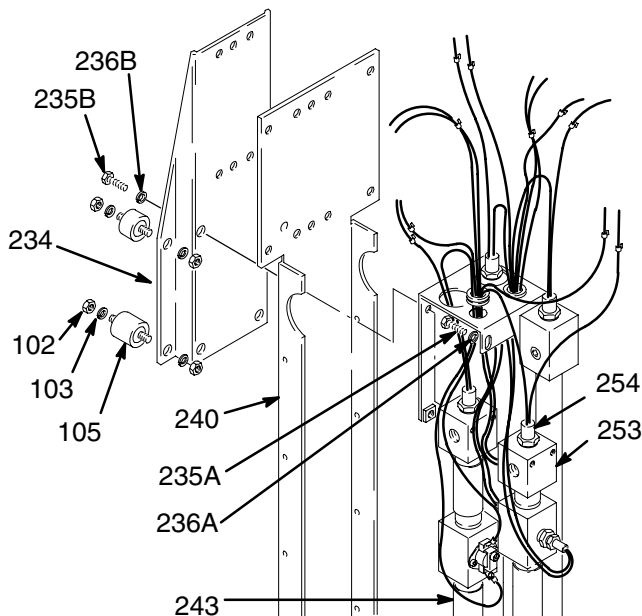
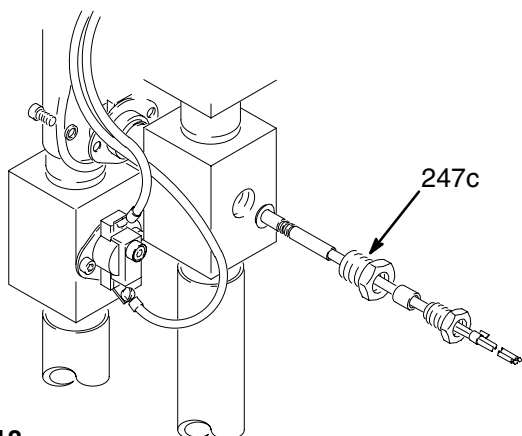
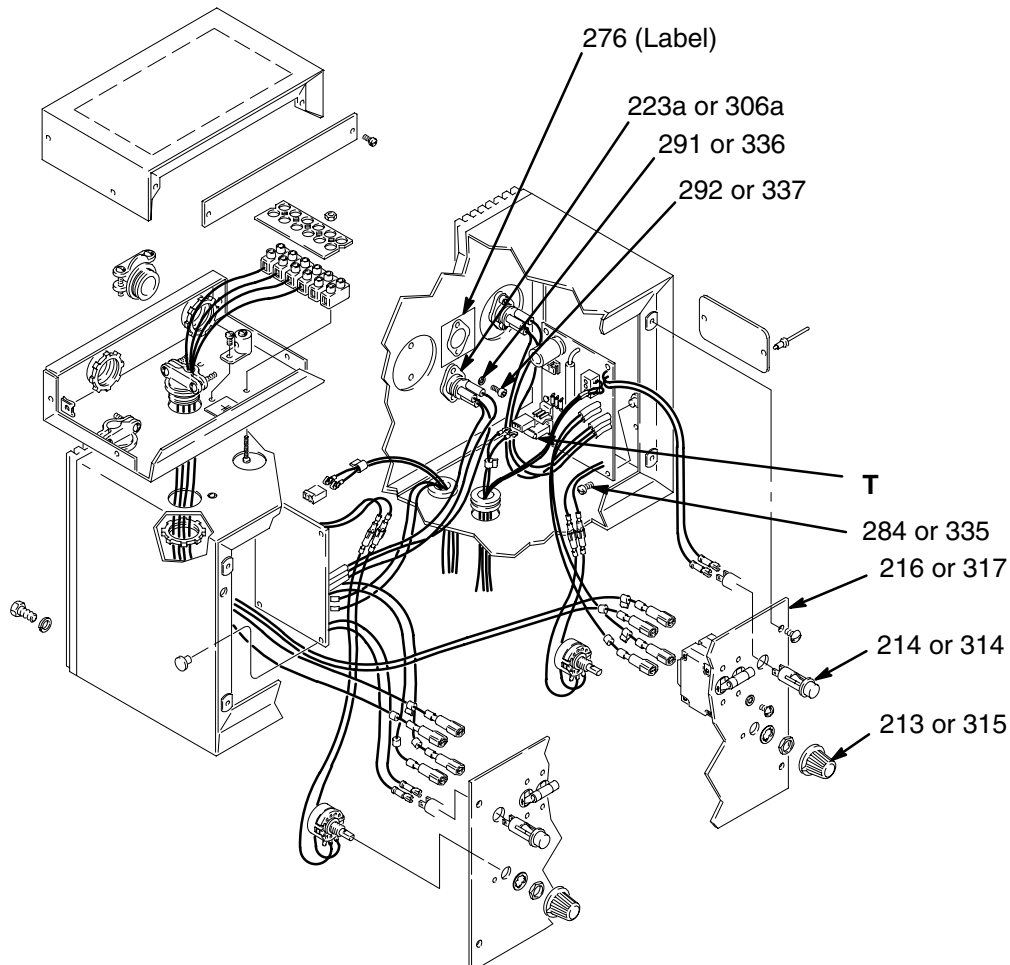

Fig. 17
Fig. 18
Fig. 20
1. Cool the fluid in the heater by pumping unheated fluid through it for two minutes before removing the front heater panel (238).
**NOTE:** Refer to Fig. 17 except where noted.
3. Connect the control panel cover (216) to the control box with one screw to keep it out of the way. See Fig. 20, page 30.
4. Remove the front heater cover (238). See page 39. Disconnect the heating element wire from the thermostats.
6. Remove all four nuts (102) and lockwashers (103) from the side flanges of the heater mounting bracket (234). See Fig. 17.
9. From the back of the heater mounting bracket (234) remove the top screws (235B) and lockwasher (236B) only from the side of the heater you are working on.
10. Push the heater element tube (243) up slightly, tip the bottom of the tube out and away from the rear panel, and then pull it away from the heater. Keep the tube upright to avoid spilling any fluid left in the tube.
11. *If the front heater element is bad*, loosen the adapter (247c) one turn. Refer to Fig. 18. Unscrew the heater element and pull it out of the tube.
12. Install a new heater element (254).
4. Unplug the wires of the indicator light (214 or 314) from behind the control panel (216 or 317). Unplug the wires from the triac (223a or 306a), noting the position of the wires. See Fig. 20 and 21.
7. Remove and keep the screws (284 and 335) from each corner of the circuit board. Remove the board. See Fig. 20.
1. Apply conductive paste (Graco P/N 110009) to the bottom flange of the triac (223a or 306a). Position the triac as shown in Fig. 20. Use the screws (291 or 336) and lockwashers (292 or 337) to mount the triac to the back of the control.
3. Plug in the triac wires, if not plugged in. See Fig. 13, page 25. Verify the triac wiring with the label (276) located inside the control box. See Fig. 20, page 30.
4. If used, plug the ATC connector (T) into the circuit board position J1. Otherwise, make sure the 2 pin connector is installed at J1 with the 47.5K resistor. See Fig. 20 and 21.
6. Plug the indicator light leads (214 or 314) into the rear of the indicator light. See Fig. 20 and 21.
7. Plug in the wires leading to the TEMP SET dial (213 or 315). See Fig. 20 and 21.
8. Plug the sensor probe connector P2 into the circuit board at position J2. See Fig. 20 and 21.